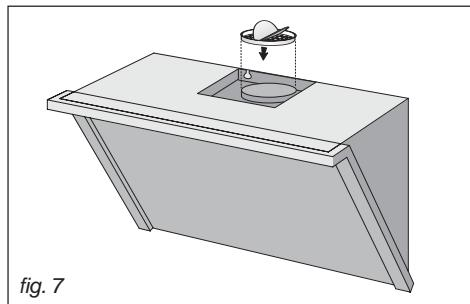

fig. 7
- **Assembly of the flange:** install the flange in the device air outlet and press slightly (Fig.7).